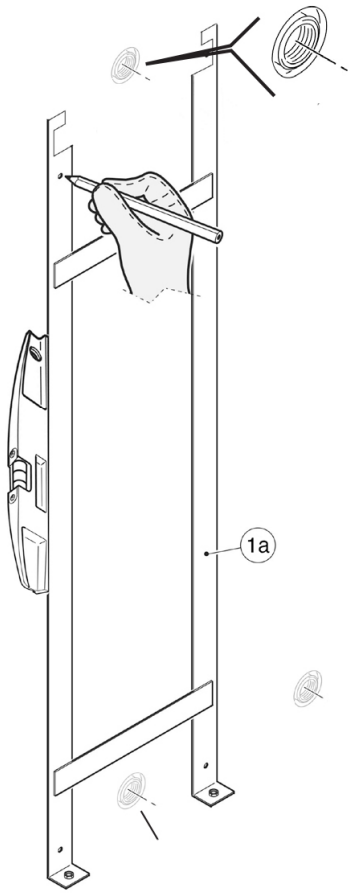

Fig. 1
1. Mount the lower frame on the wall (1a) making sure the frame is set at desired height and set at right angles to the shower tray/floor. Mark the four holes and drill using a ¼” bit. Insert anchors and secure the frame as shown in Fig. 1, 2, 3 and 4.